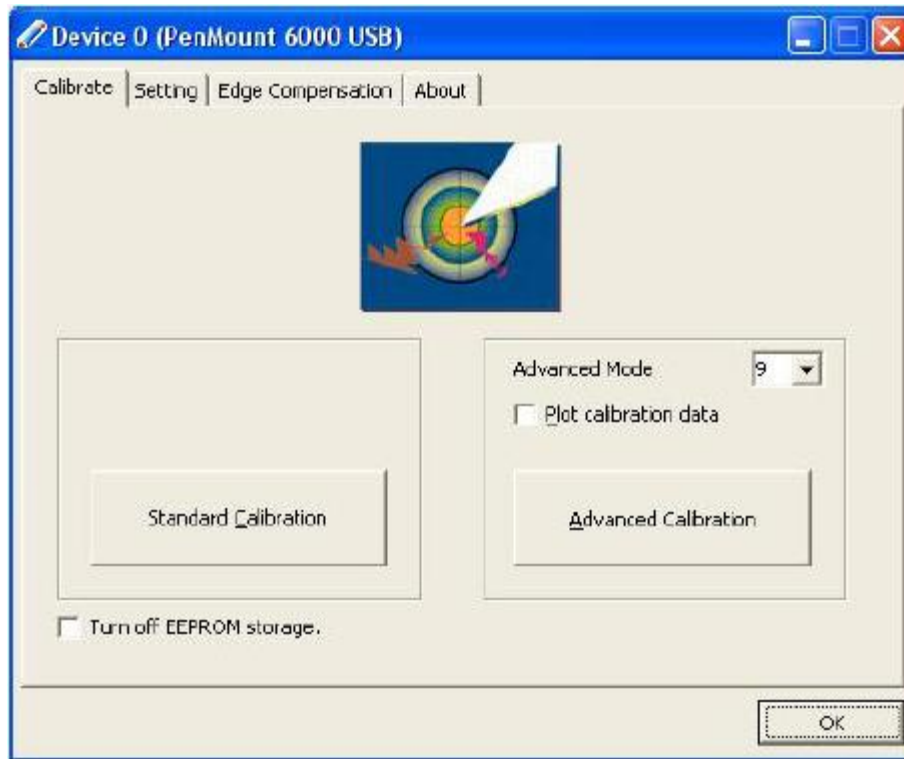

Figure 5-10: Calibration Initiation Screen
Step 8: The calibration initiation screen in **Figure 5-10** appears.
Step 9: Select the Standard Calibration button as shown in **Figure 5-10**.